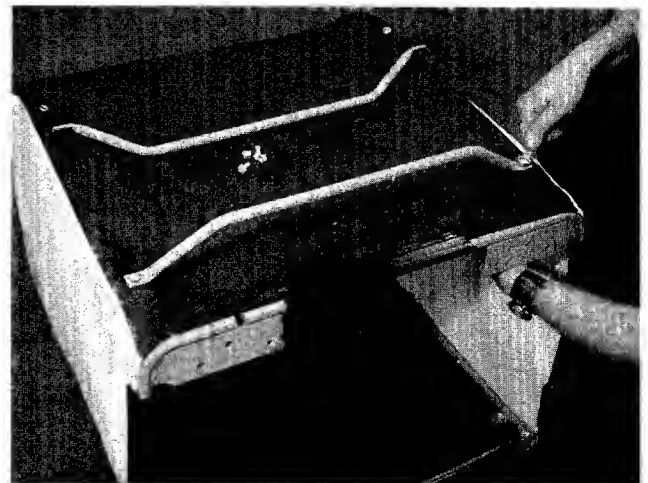

FIGURE 11.
5. Turn the grass catcher over, top side up. Place two handles in position and secure with four hex bolts (I) and locknuts (D) provided. See figure 11. Bolts go down through handle, bag eyelet and frame. Tighten with two 7/16" wrenches.